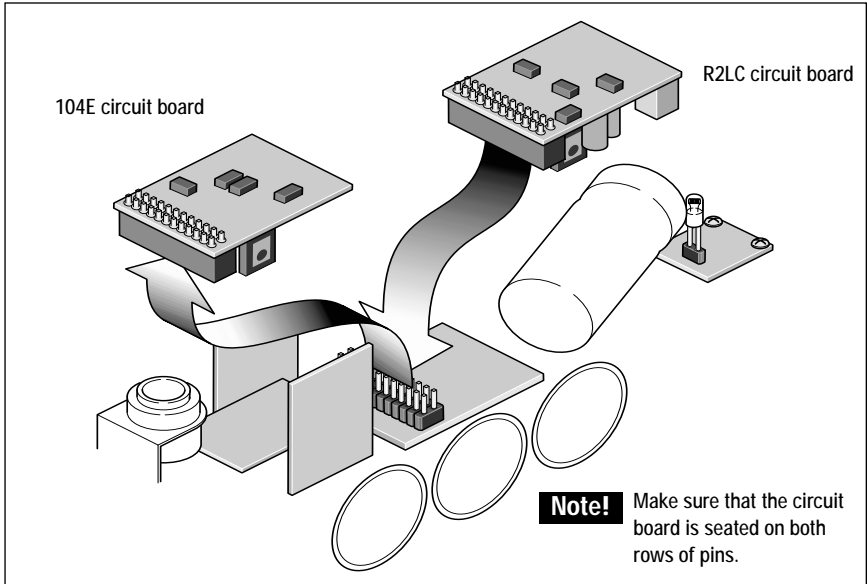

Figure 1. Replacing the 104E circuit board
2. Locate and unplug the 104E circuit board from the motherboard. Refer to Figure 1.